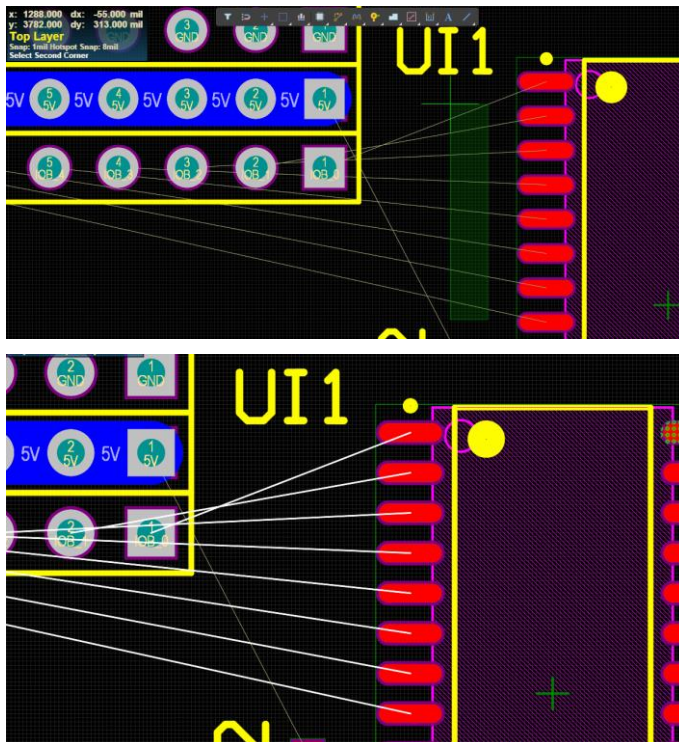

Figure 14. Select the Connection Lines to route the selected traces
40. Select the connection lines between UI1 (Pad 1 to 8) and IOS2 (Pad 1 to 8) by holding the **Alt** key followed by dragging your mouse from right to left around the connection lines, then let go of your mouse button to select them. This will create a selection rectangle and will highlight the connection lines as shown in Figure 14.